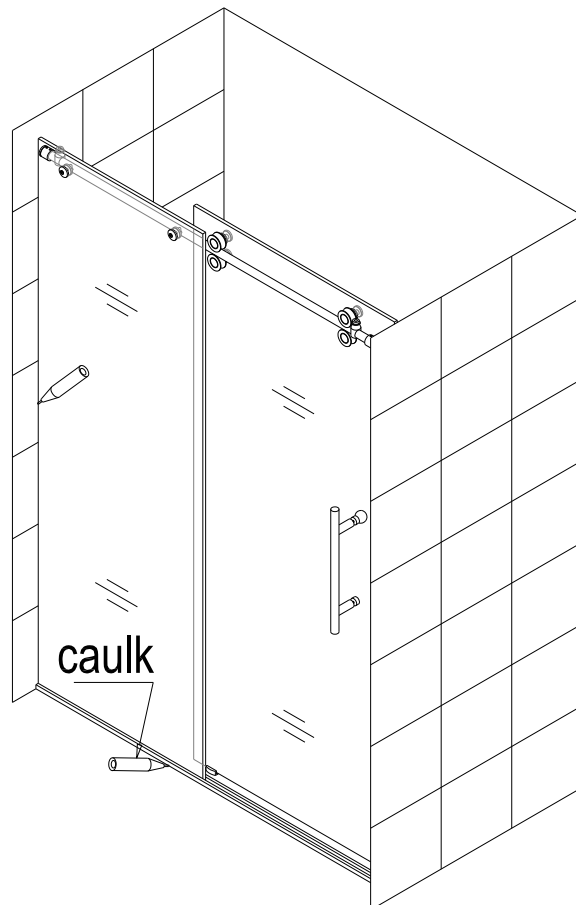

Fig. 16
12. Seal with silicone between the glass panels and the walls. See fig. 16 for details.